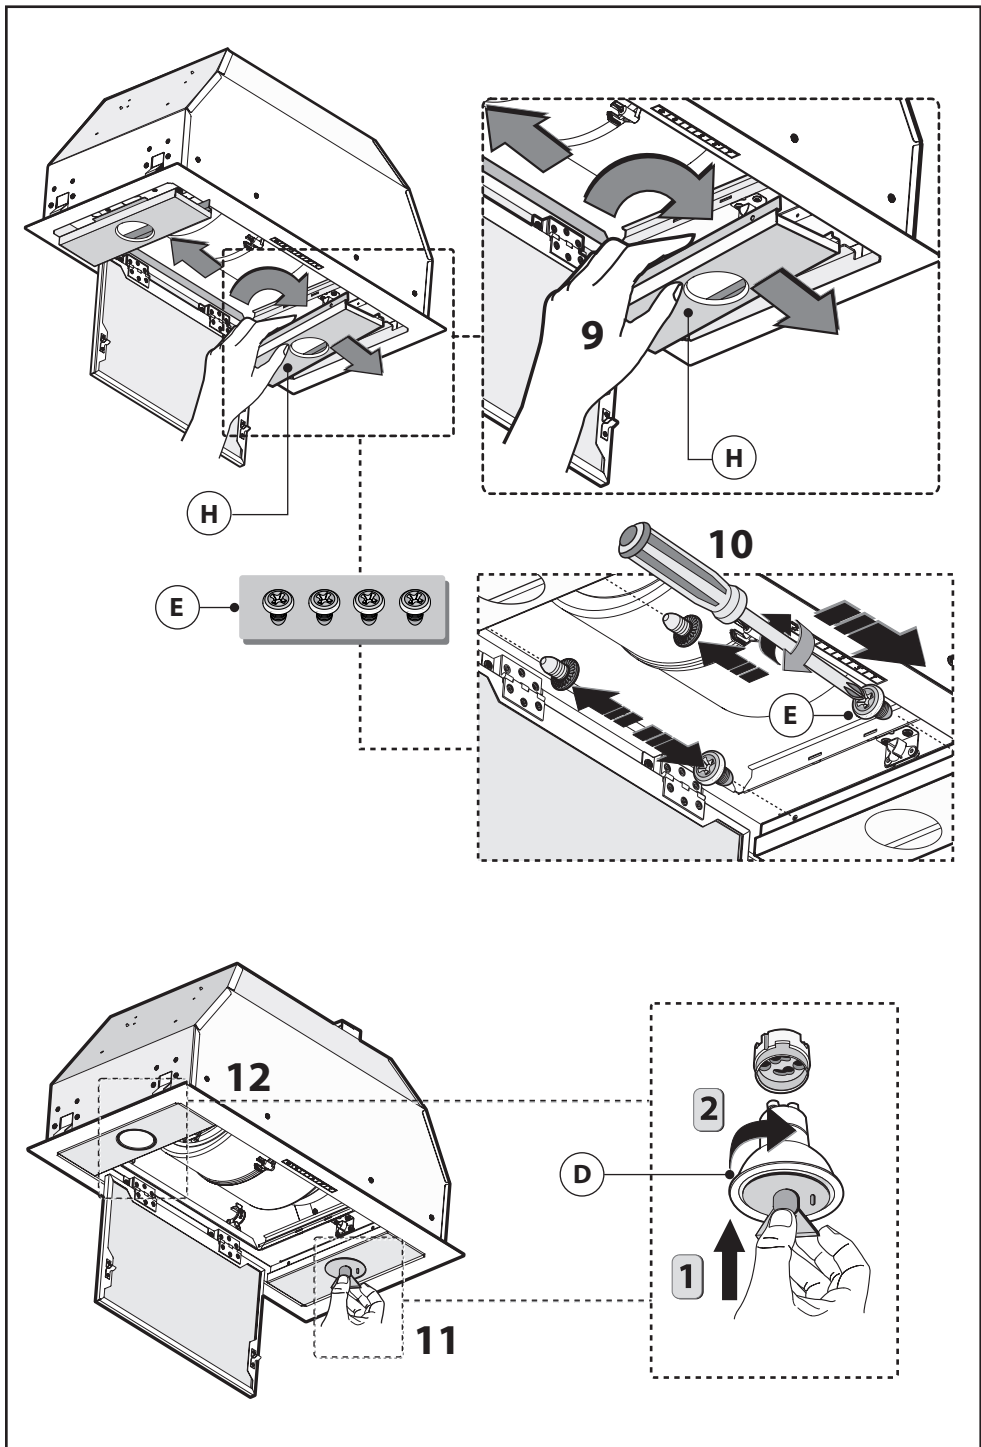

Fig.5
- Refit the two hood brackets **H** (right and left) and secure them with the 4 screws **E** which had been removed **Fig. 5 - step 9-10**.
- Screw the two light bulbs **D** back in place, turning them clockwise by means of a suction cup, as indicated in **Fig. 5 - step 10-11**.